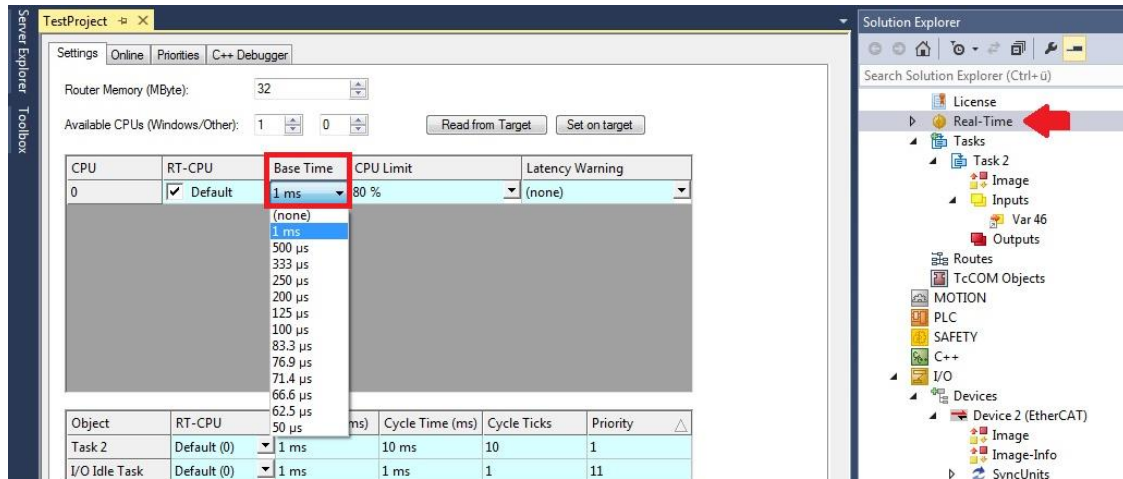

Figure 15: change TwinCAT Base Time
- a. All cycle times in TwinCAT are always expressed as multiple integers of the so-called “Base Time”. The default value of the Base Time is 1 ms, but it can be changed in case the EtherCAT communication needs to be tested with cycle times which are not a multiple integers of 1 ms (Figure 15).